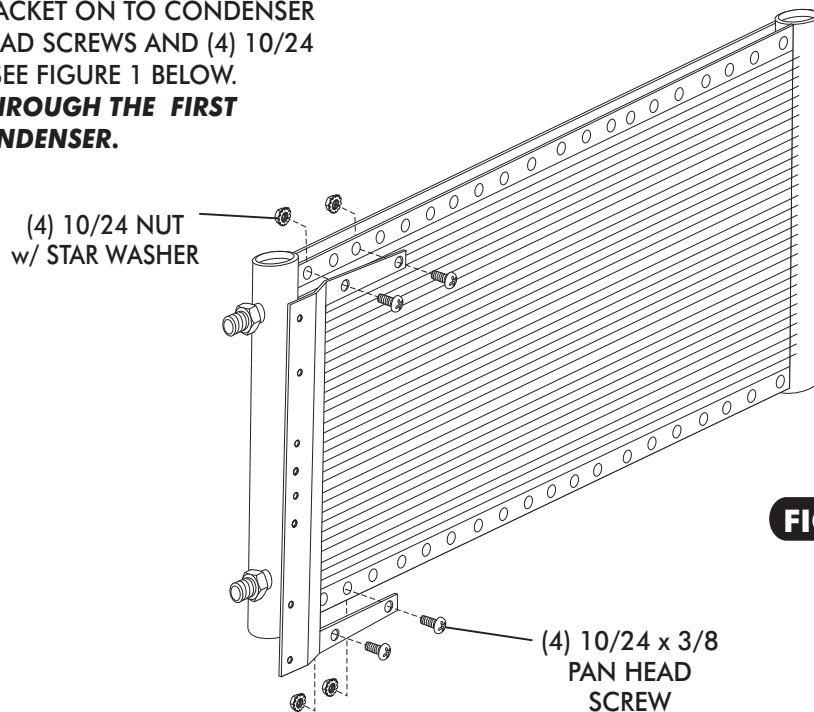

FIGURE 1
- INSTALL DRIER MOUNTING BRACKET ON TO CONDENSER USING (4) 10/24 x 3/8 PAN HEAD SCREWS AND (4) 10/24 NUTS WITH STAR WASHERS. SEE FIGURE 1 BELOW.